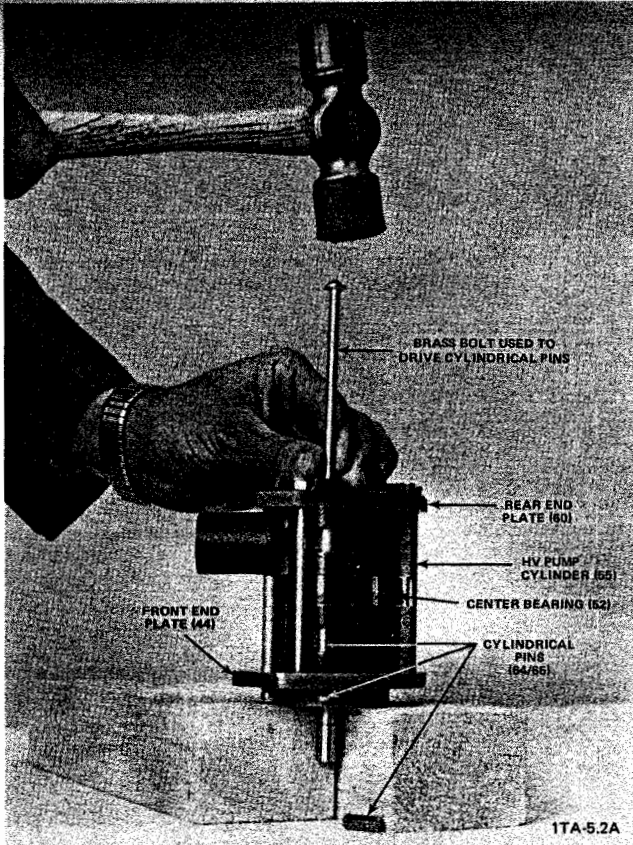

Figure 5-5. Removing the Cylindrical Pins From the Module (D2A Pump Model Shown)
Using a hammer and a drift pin (or long bolt), remove the cylindrical pins as follows (see Figure 5-5).
- a. Drive one of the two short cylindrical pins (64) that aligns the rear end plate (60) and the high vacuum stage pump cylinder (55) toward the center bearing (52) until the pin (64) falls out.
**NOTE:** On some pump models, this pin (64) does not have room to fall out. In this case, continue driving it until all three pins fall out of the alignment hole in the front end plate (44).
- b. While keeping the drift pin (or bolt) inserted through the rear-end-plate alignment hole, drive the long cylindrical pin (65) toward the front end plate (44). Continue driving the cylindrical pins
until the long pin (65) forces the other short pin (the one that aligns the front end plate (44) and the second stage pump cylinder) to fall out, and then the long pin also falls out of the front-end-plate alignment hole (see Figure 5-5).